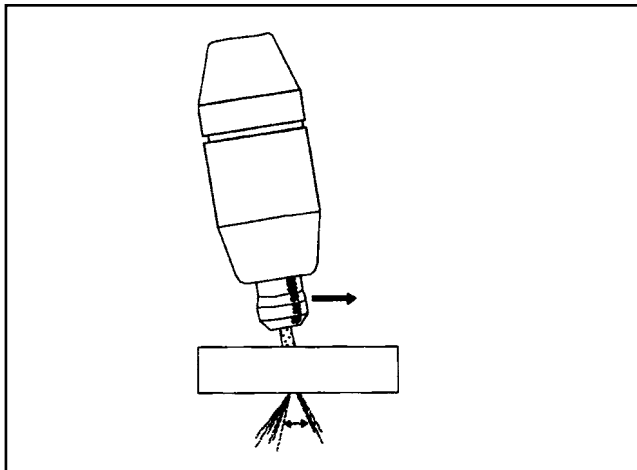

Figure 4-2. Recommended Torch Angle of 5° to 15°
- After starting the cut, the torch should be maintained at a 5-15° forward angle (Figure 4-2). This angle is especially useful in helping to create a "drop" cut. When not using the standoff guide, the nozzle should be held approximately 1/4 inch from the work.